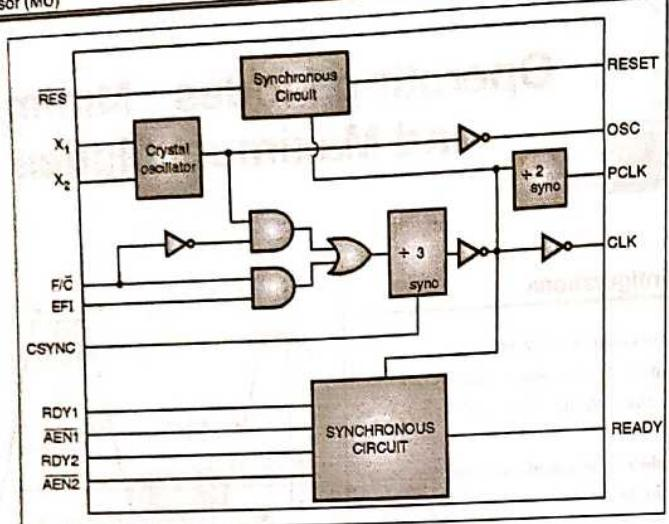

Fig. 3.2.2(a) : Internal block diagram of 8284
- The internal block diagram and pin configuration of the clock generator 8284 are shown in Fig. 3.2.2(a) and 3.2.2(b) respectively.